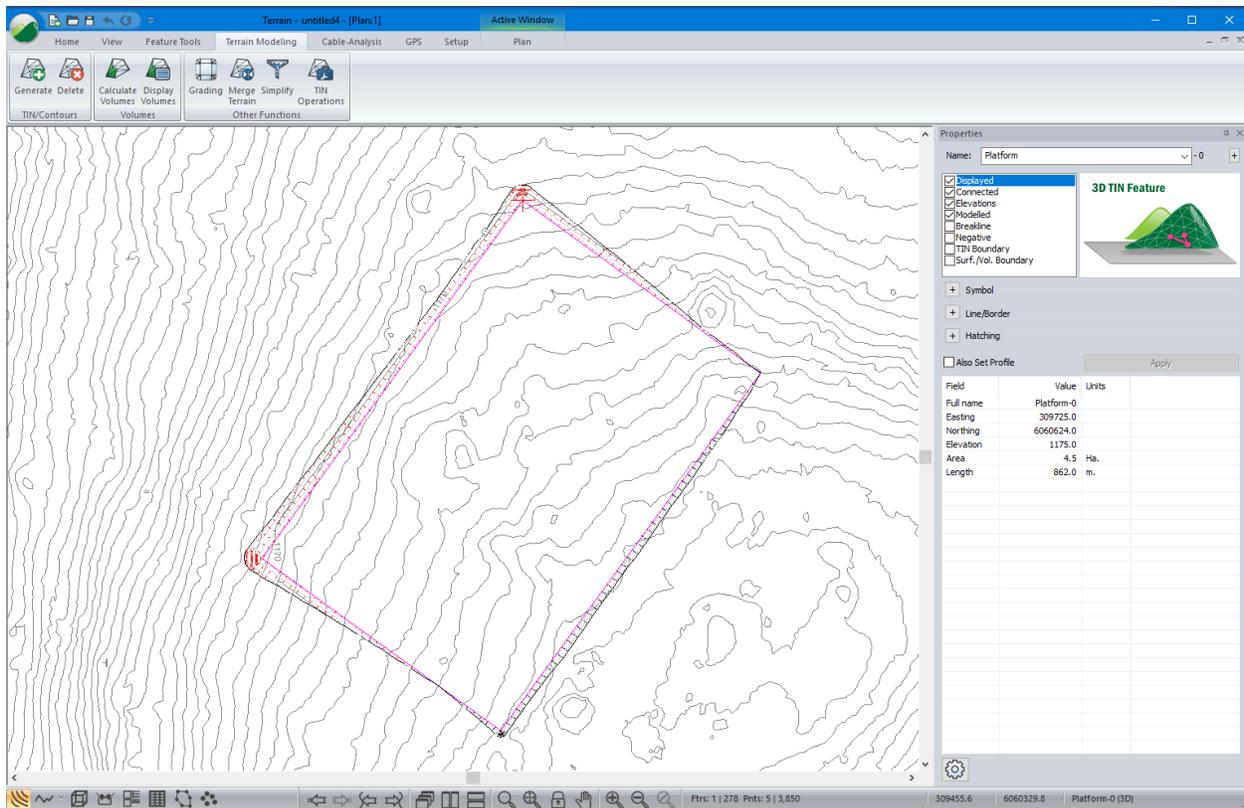

Figure 10-8: Screen Shoot with Pad Top Selected
10. First, select the pad if it is not already selected. Select the pad top by using the selection cursor . It is not necessary to select the slope and daylight lines. (Refer to the Figure 10-8)